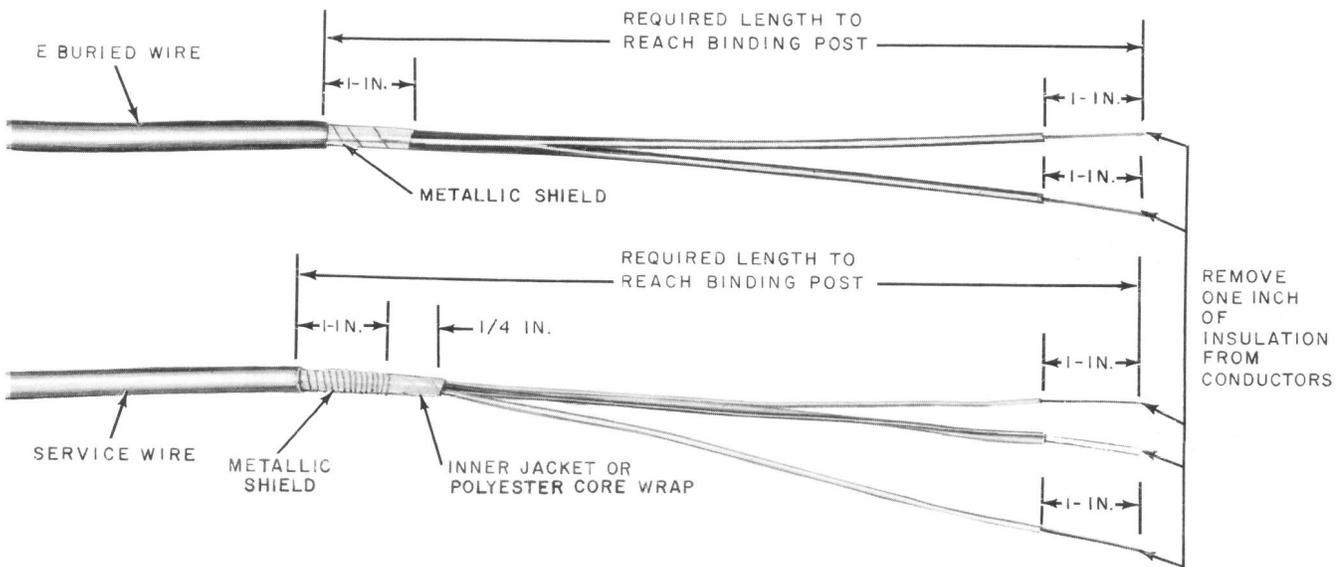
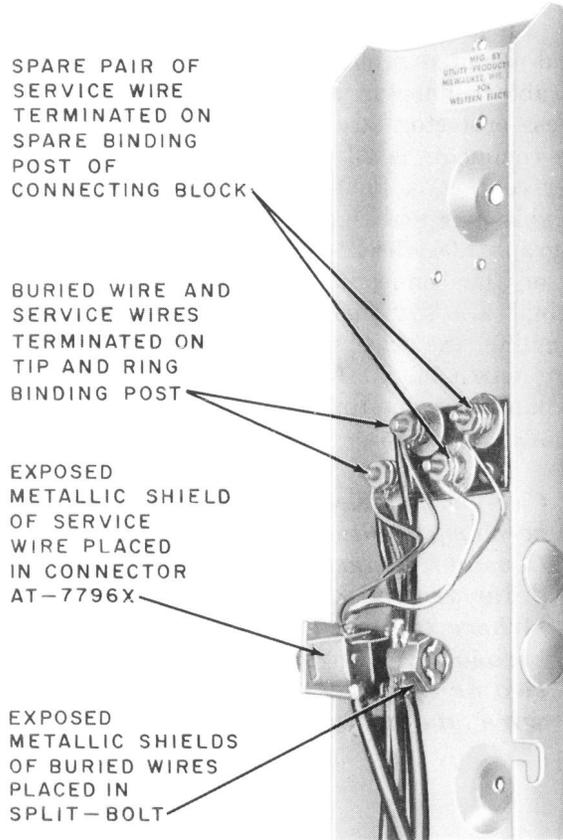

Fig. 34—Prepared Service Wire—D or E Buried Wire Terminal
Fig. 35—Service Wire Terminated—D or E Buried Wire Terminal
9.02 The termination of service wire in either the D or E buried wire terminal is identical. Prepare the service wire as shown in Fig. 34 and terminate as shown in Fig. 35.